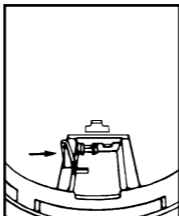
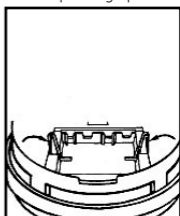

FIGURE 7
FIGURE 7A
5. When installing the battery, press the battery reminder finger down into the battery compartment and install the battery (see FIGURE 7 and FIGURE 7A for the i9080 alarm).